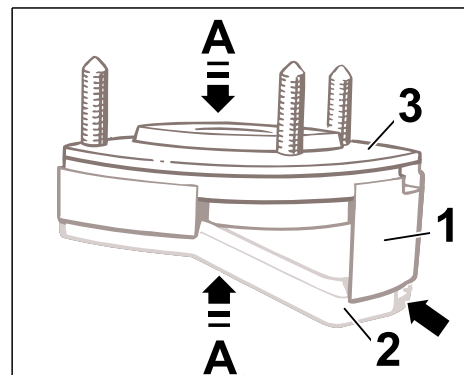

Figure 4
None of the 7 cut-outs (⇒ Fig. 4, arrow) on the spring plate must be left free!
2.1.5 Connect spring strut/supporting mount assembly with spring plate (compensation part) (⇒ Figure 4 -A-).